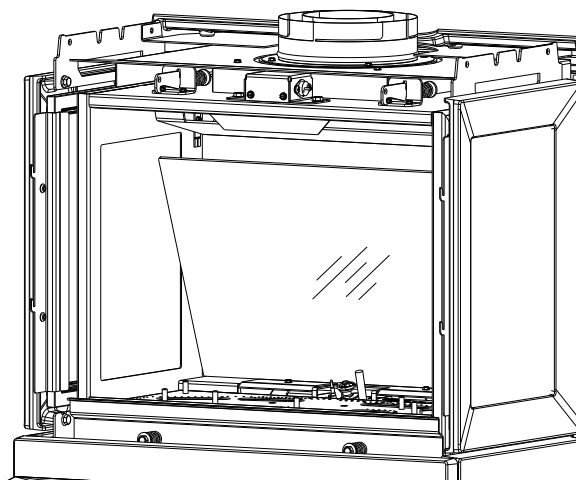

Figure 10.1. Install Rear Panel.
2. Set the Rear Panel, bottom first, behind the pilot assembly shield and resting on the rear shelf. See fig. 10.1.